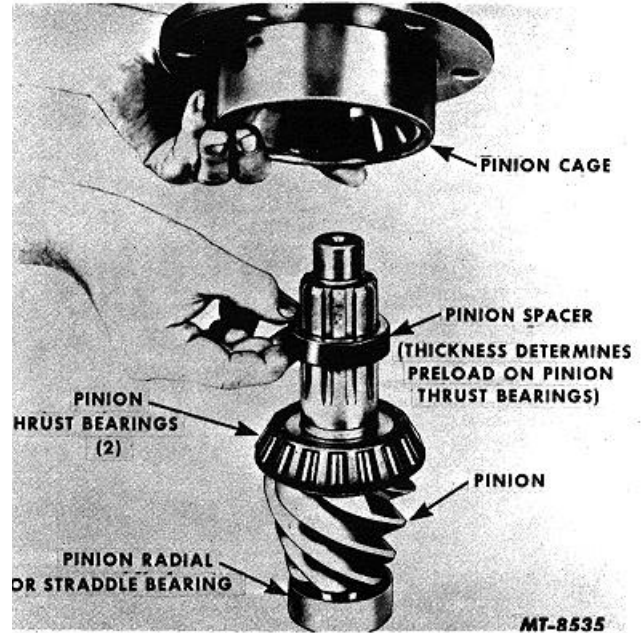

Fig. 18 Removing Pinion Bearing Spacer
4. Remove spacer or spacer combination from pinion shaft, Fig. 18.
5. If it is necessary to remove the rear thrust bearing on the radial bearing, Fig. 18, remove these bearings with a suitable puller
1. **Preload pinion bearings** in pinion cage. This is determined by the thickness of spacer between the two pinion thrust bearings, Fig. 18.
Before the pinion and drive gear can be adjusted for correct tooth contact, the pinion bearing preload must be set. Preloading the pinion bearings is accomplished by selecting the correct size spacer, Fig. 18, located between the two pinion thrust bearings, and tightening pinion end nut to the specified torque.